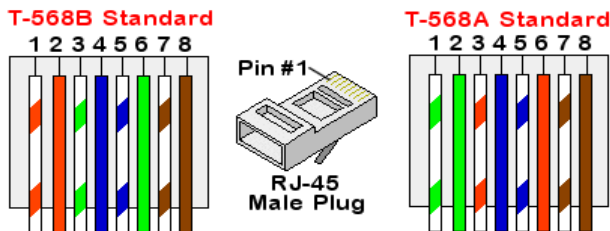

Figure 19: Standard wiring
- Insert eight son in the RJ45 connector, as described in Figure 19.
4 On the side of the router / switch, use a pre-crimped cable or use a crimping tool to prepare the RJ45 communication connector: insert the eight son in the RJ45 connector in the same order as in Figure 19.